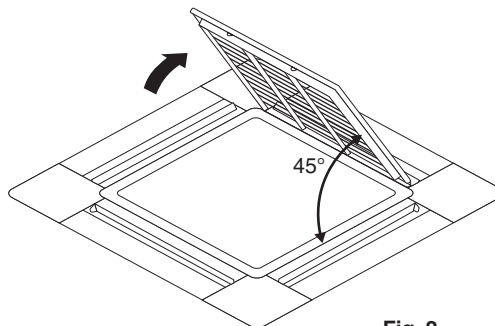

Fig. 2
- 2 Detach the suction grille from the decoration panel by lifting the grille up approximately 45 degrees. (Refer to Fig. 2)